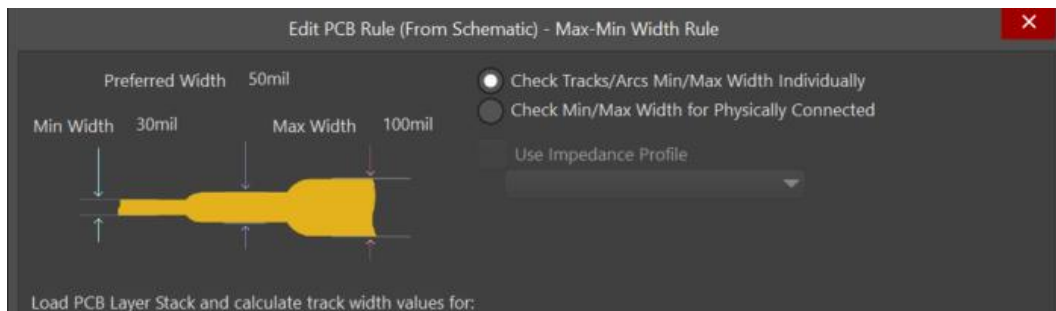

Figure 9. Width Rule settings
f) In the upper section of the rule, set the following values as shown in Figure 9 below: